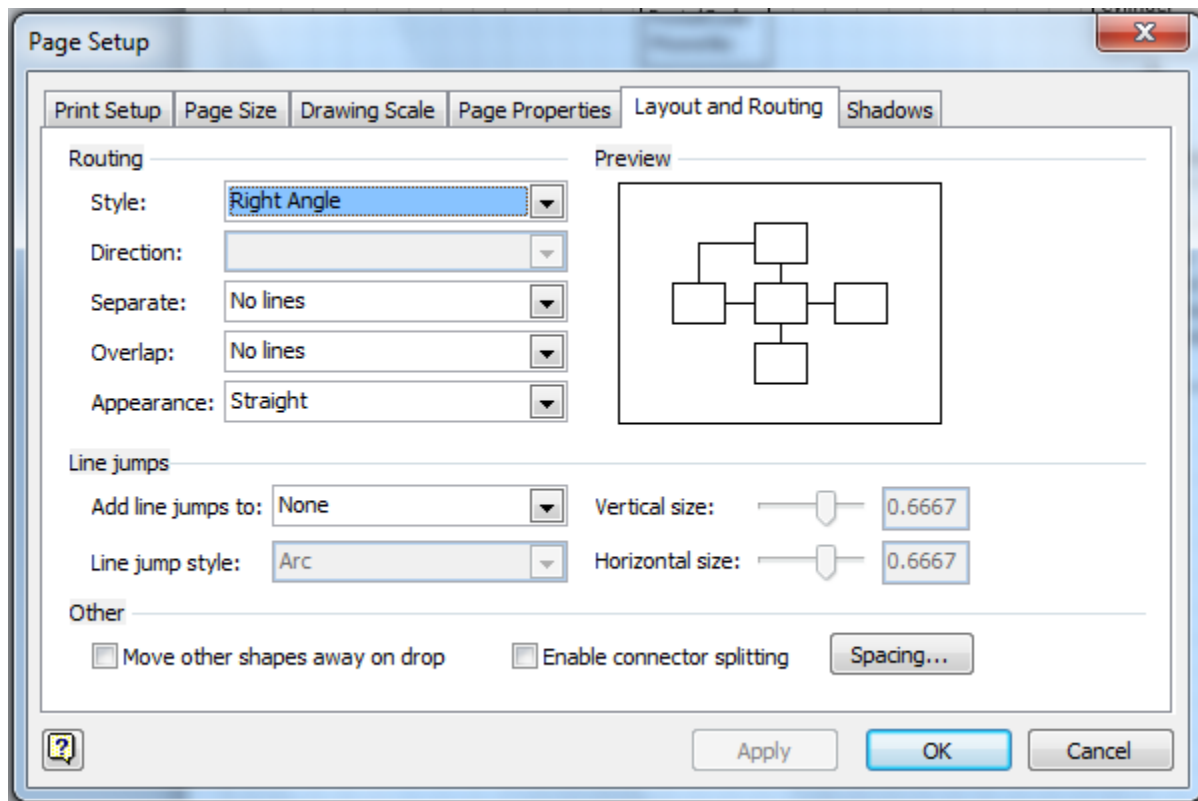

Figure 45: Lay Out Shapes Window with Default Settings
1. Choose Layout Property Settings: After you select the **Design** → **Page Setup** → Layout and Routing... command, the Layout and Routing window appears (Figure 45). Use the settings as shown in Figure 45. Table 11 summarizes the properties in the Layout Routing window.